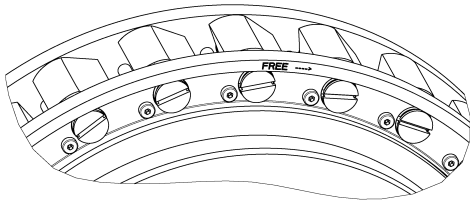

Fig. 5 Clamp bodies “neutral position”
- Lift the inner race (2) including the cage (8) out of the outer race (1). Use appropriate lifting gear at the threaded hole of the inner race for this.
- Remove the circlip (3) from the inner race and pull the cage (8) off the inner race (2).
- Secure (see Fig. 5 and 6) the clamp bodies in lift-off position (against the spring force) using an O-ring / cable connector as an assembly aid.
- Insert the inner race (2) with cage (8) into the outer race (1) until half of the clamp body is covered.